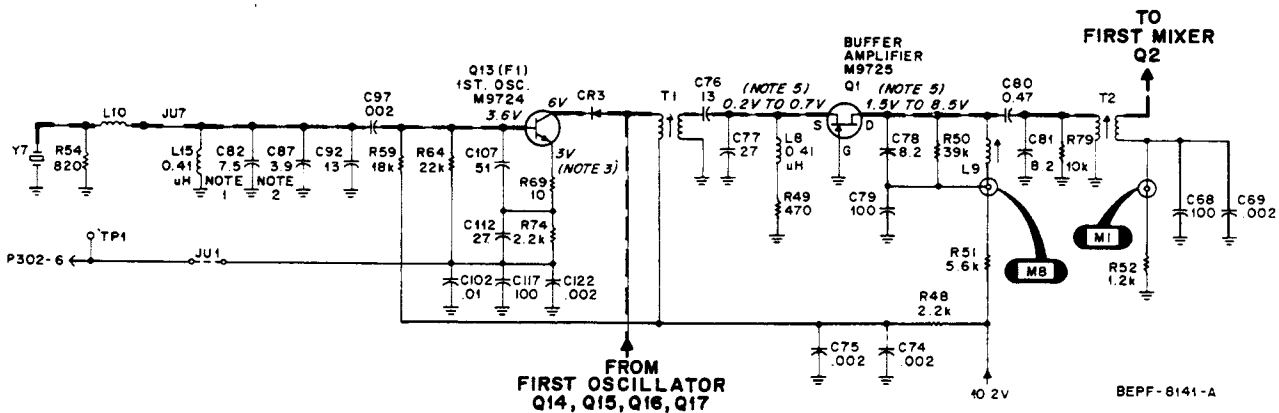

Figure 5. Typical First Oscillator and Buffer Amplifier Stages
c. First Oscillator and Buffer Amplifier Stages (Refer to Figure 5)